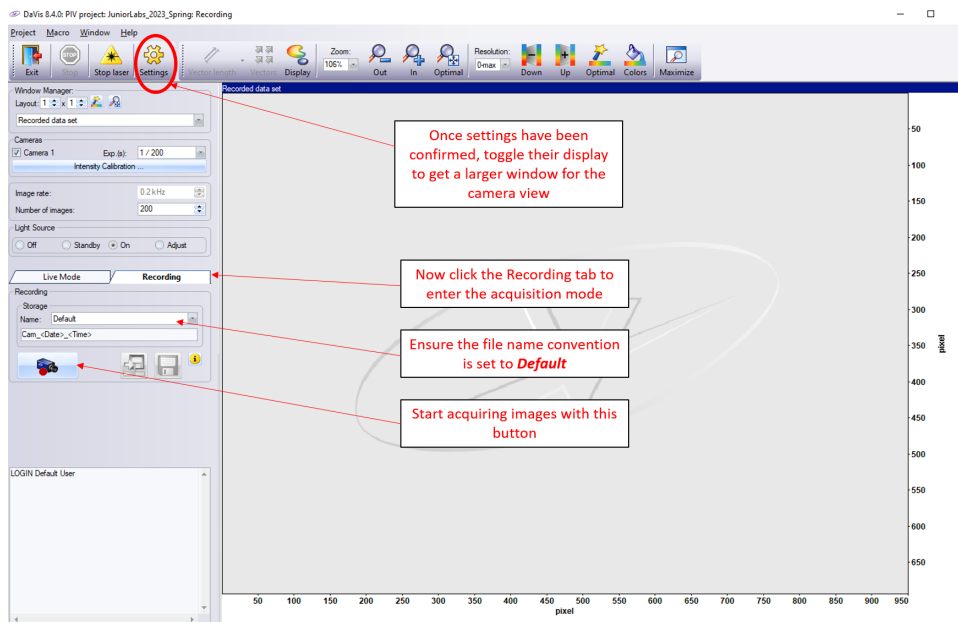

Figure 7: Recording Tab and Image Acquisition.
- Click on the “Recording tab”, as shown **Figure 7**, and then click on the Settings button at the top of the page to toggle the settings panel display and get a better view of the images that you are about to acquire.
- We are about to acquire 200 images. The software will take care of the data acquisition, but the images will not be stored on the computer yet. They will remain in the internal storage of the camera for now. Before clicking the "Record Images" button, make sure that the naming of the recording is set to "Default", see **Figure 7**. Once everything looks good, go ahead and click on the "Record images" button. Make sure to keep an eye on the LED light source (or on the PTV camera feed) to see what is happening in the laboratory during that one second of data acquisition.